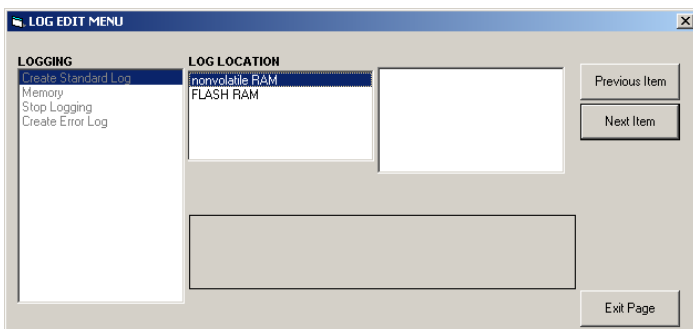

Figure 12: Log location in the Create Standard log option
- Double-click on the *create standard log* option. The window now appears similar to *Figure 12* below.